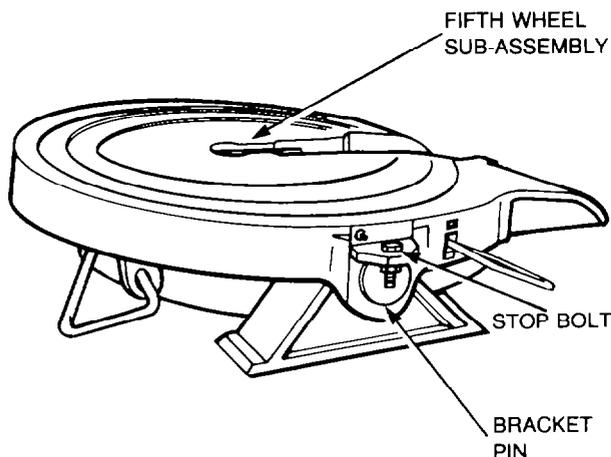

Figure 313 — Fifth Wheel Sub-assembly
- b. Place the assembly on a flat surface, then using suitable overhead lifting equipment to support the weight of the fifth wheel sub-assembly, remove the two stop bolts and nuts (see Fig. 313). Then using a pin punch and hammer remove the roll pins from the bracket pins and remove the bracket pins.